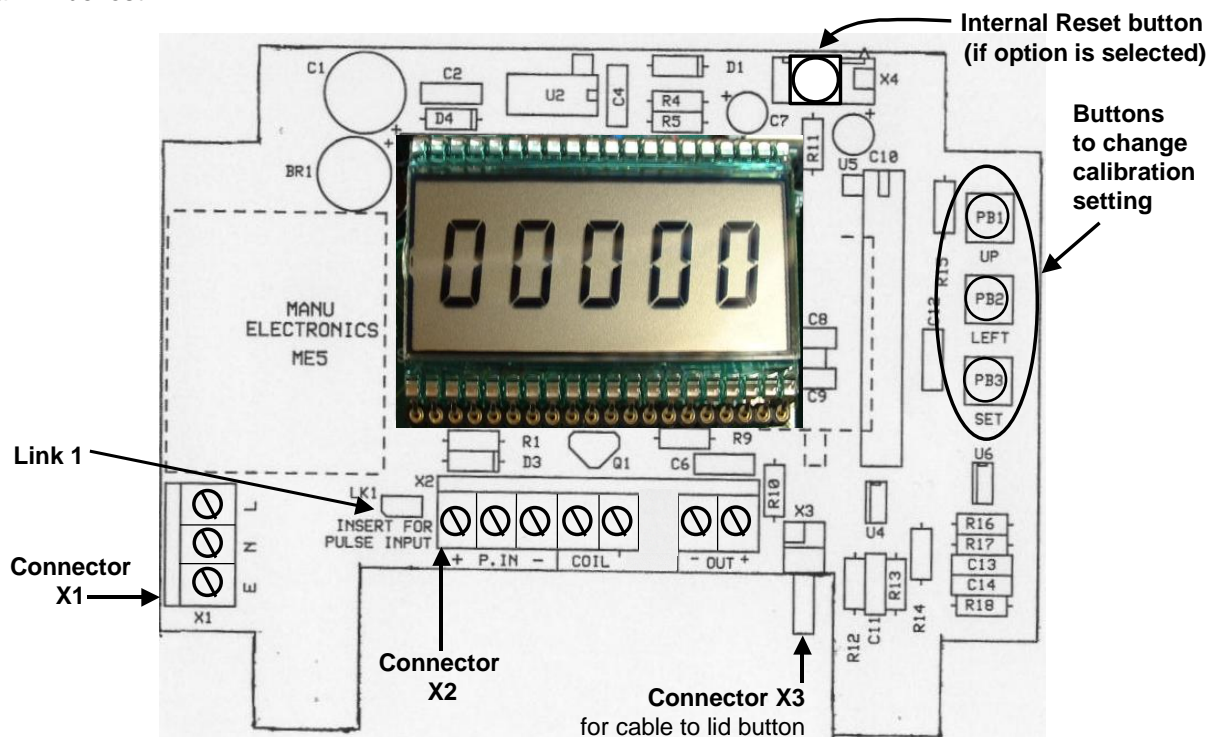
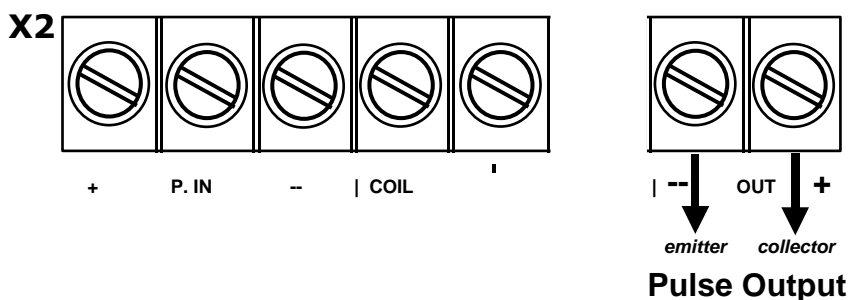

Figure 2. ME5-T Internal PCB - Connectors and Calibration Buttons.
**Figure 5. Connection of Coil, Reed or Pulse/NAMUR Inputs via Connector X2.**
| Figure 2. | ME5-T Internal PCB - Connectors and Calibration Buttons.....          | 4 |
Optionally (-IR version, where lid button is marked "WAKE"), the total is reset via an internal pushbutton (see Figure 2 on page 4), and the lid button simply wakes the display if it has gone into sleep mode.
- the button on the lid (Figure 1-h on page 3) is pressed. Note: any total will not be reset by the button press that wakes up the display. Once the display is awake and displaying a value, then any subsequent button press will reset the displayed total. (Optionally, in the -IR version, the total is reset via an internal pushbutton as shown in Figure 2 below, and the lid button simply wakes the display if it has gone into sleep mode).
Power supply connections are made by running the power cable through the cable entries of the enclosure, to the screw terminal connectors located on the Printed Circuit Board (PCB) inside the ME5-T (see Figure 2 below). The PCB is accessible by removing the four Stainless Steel screws and the front panel from the enclosure.
The ME5-T will accept a coil input from a flowmeter, through the cable entry to the internal PCB Connector X2 as shown in Figure 5-a below. Note the connection of the shielded cable.
The ME5-T will accept a Reed Switch input, or an NPN Open Collector input, from a flowmeter through the cable entry to the internal PCB Connector X2 as shown in Figure 5-b below.
The ME5-T will accept a Pulse/NAMUR input from a flowmeter, through the cable entry to the internal PCB Connector X2 as shown in Figure 5-c below. **Note:** Link 1 (see Figure 2) is inserted for a pulse/NAMUR input.
- a 5-24VDC supply to internal PCB Connector X2, as shown in **Figure 5** below. This will then provide at pin 1 of Connector X2 an the same DC voltage as the DC supply;
- firstly removing the lid of the ME5-T to access the Calibration Buttons on the internal PCB (see Figure 2 on page 4); then
The Calibration Buttons 'UP', 'LEFT' and 'SET' are on the internal PCB board (see Figure 2, page 4).
| Distance between sensor and display is over 100 metres.              | <ul style="list-style-type: none"> <li>• Insert Link 1 (see Figure 2 on page 4) to increase the current flow to the sensor, regardless of the input type used.</li> </ul>  |